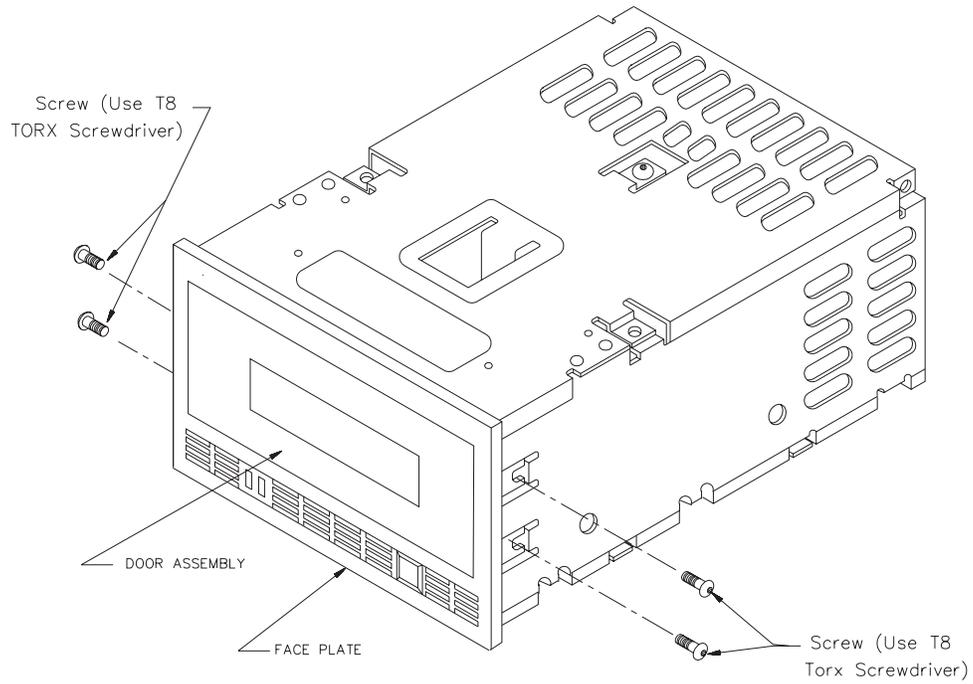

Figure 12-3
2. Close the door partially so that you can slide the faceplate around the door and align it with the four mounting screws (see Figure 12-3).